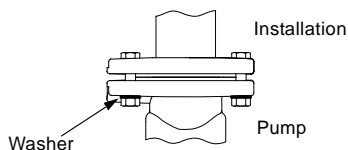

Fig. 3 Position of washers for oval bolt holes
When installing pumps, types UPS(D) 32-xx, 40-xx, 50-xx and 65-xx, with oval bolt holes in the pump flange, washers must be used as shown in fig. 3.